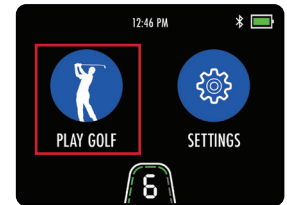

Fig 1 - Home - Play Golf
1. From the Home screen select "Play Golf" (fig. 1)